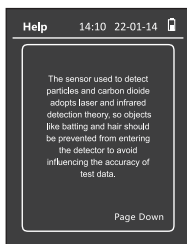

fig.24
**f. Help:** View the help information for using the detector (fig.24).